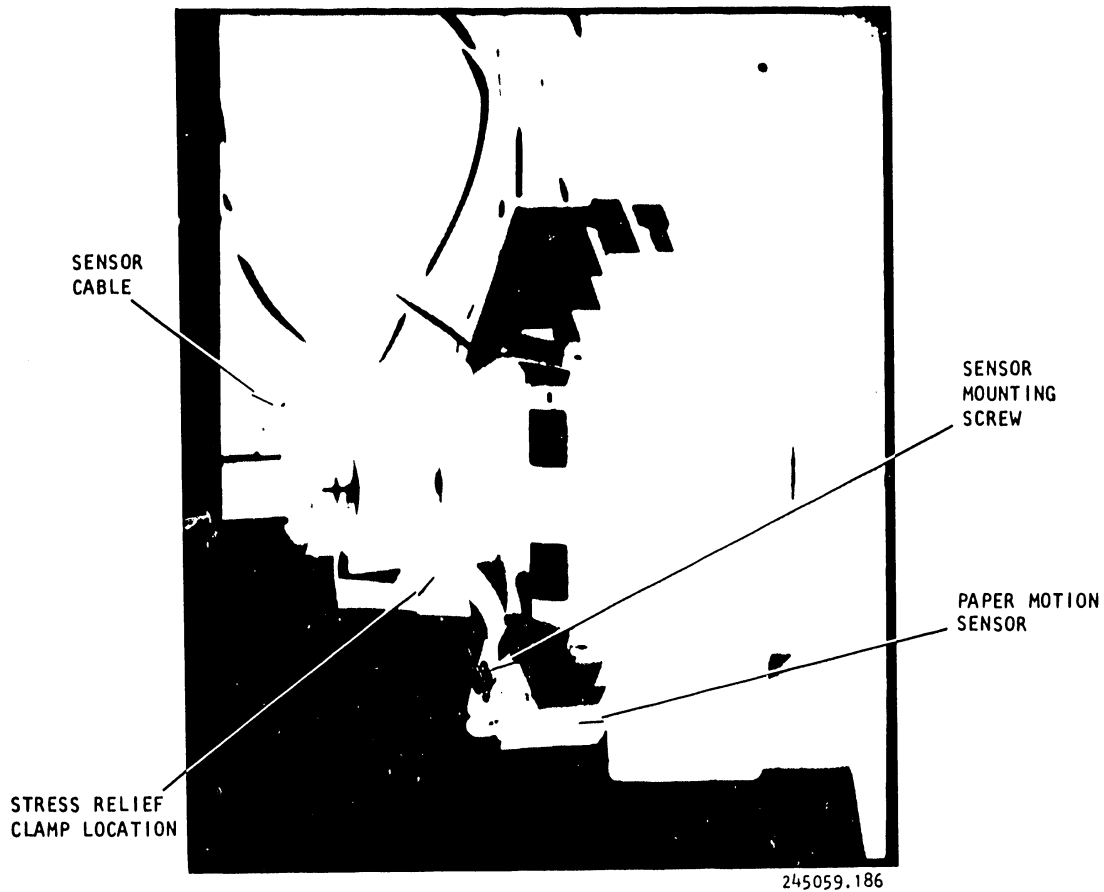

Figure 3-27. Paper Motion Sensor Removal/Replacement
3.4.16 Paper Motion Sensor Removal/Replacement (Figure 3-27)